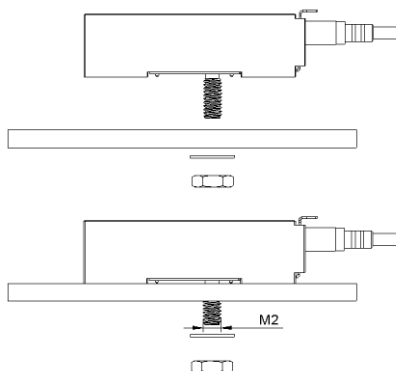

Fig.5 - Screwing from top side with captive screw (1)
- screwing from top side by means of captive screw integrated within Essential package (Fig 5)